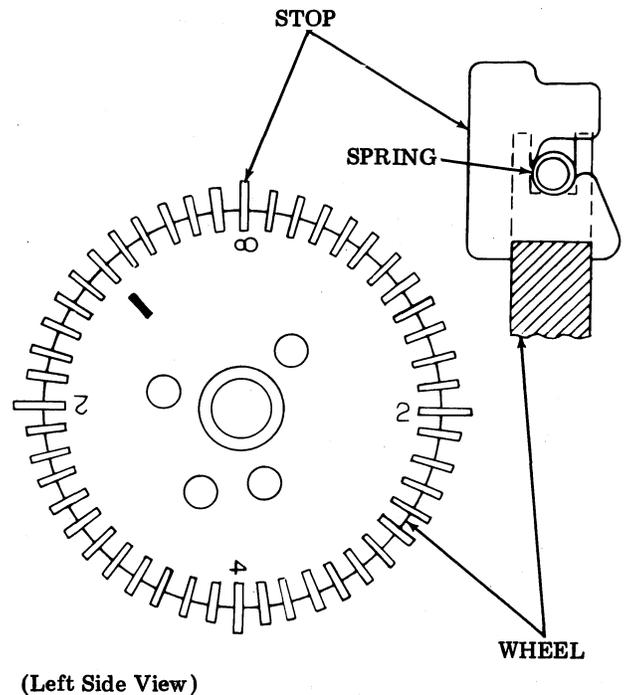

Figure 18 - Form-Out Positioning
4.23 Before operating a set equipped with vertical tabulation and/or form-out, check to see if the required stops for the form length have been added. All units are shipped from the factory with only the stop for the longest form length. Extra form-out stops are provided in a bag tied to the typing unit. They are to be installed if a form length shorter than the wheel length was ordered. For example: on an 8-, 4-, 2-inch wheel (Figure 18), if an 8-inch form is used, no action is necessary. If a 4-inch form is used, a form-out stop must be inserted in the slot marked 4. For 2-inch forms, insert form-out stops in slot marked 4 and slot marked 2.